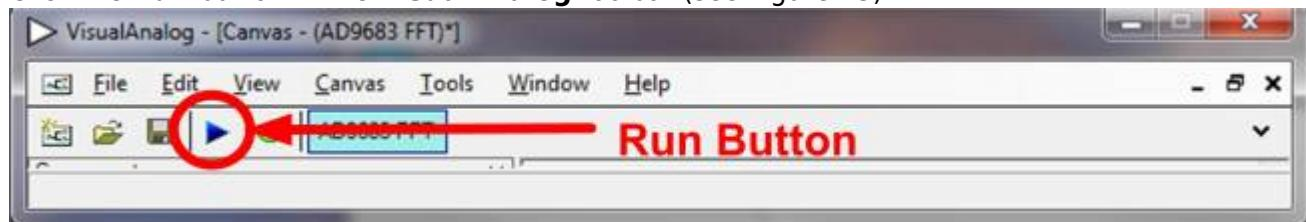

Figure 13. Run Button (Encircled in Red) in VisualAnalog Toolbar, Collapsed Display
- Click the **Run** button in the **VisualAnalog** toolbar (see Figure 13).